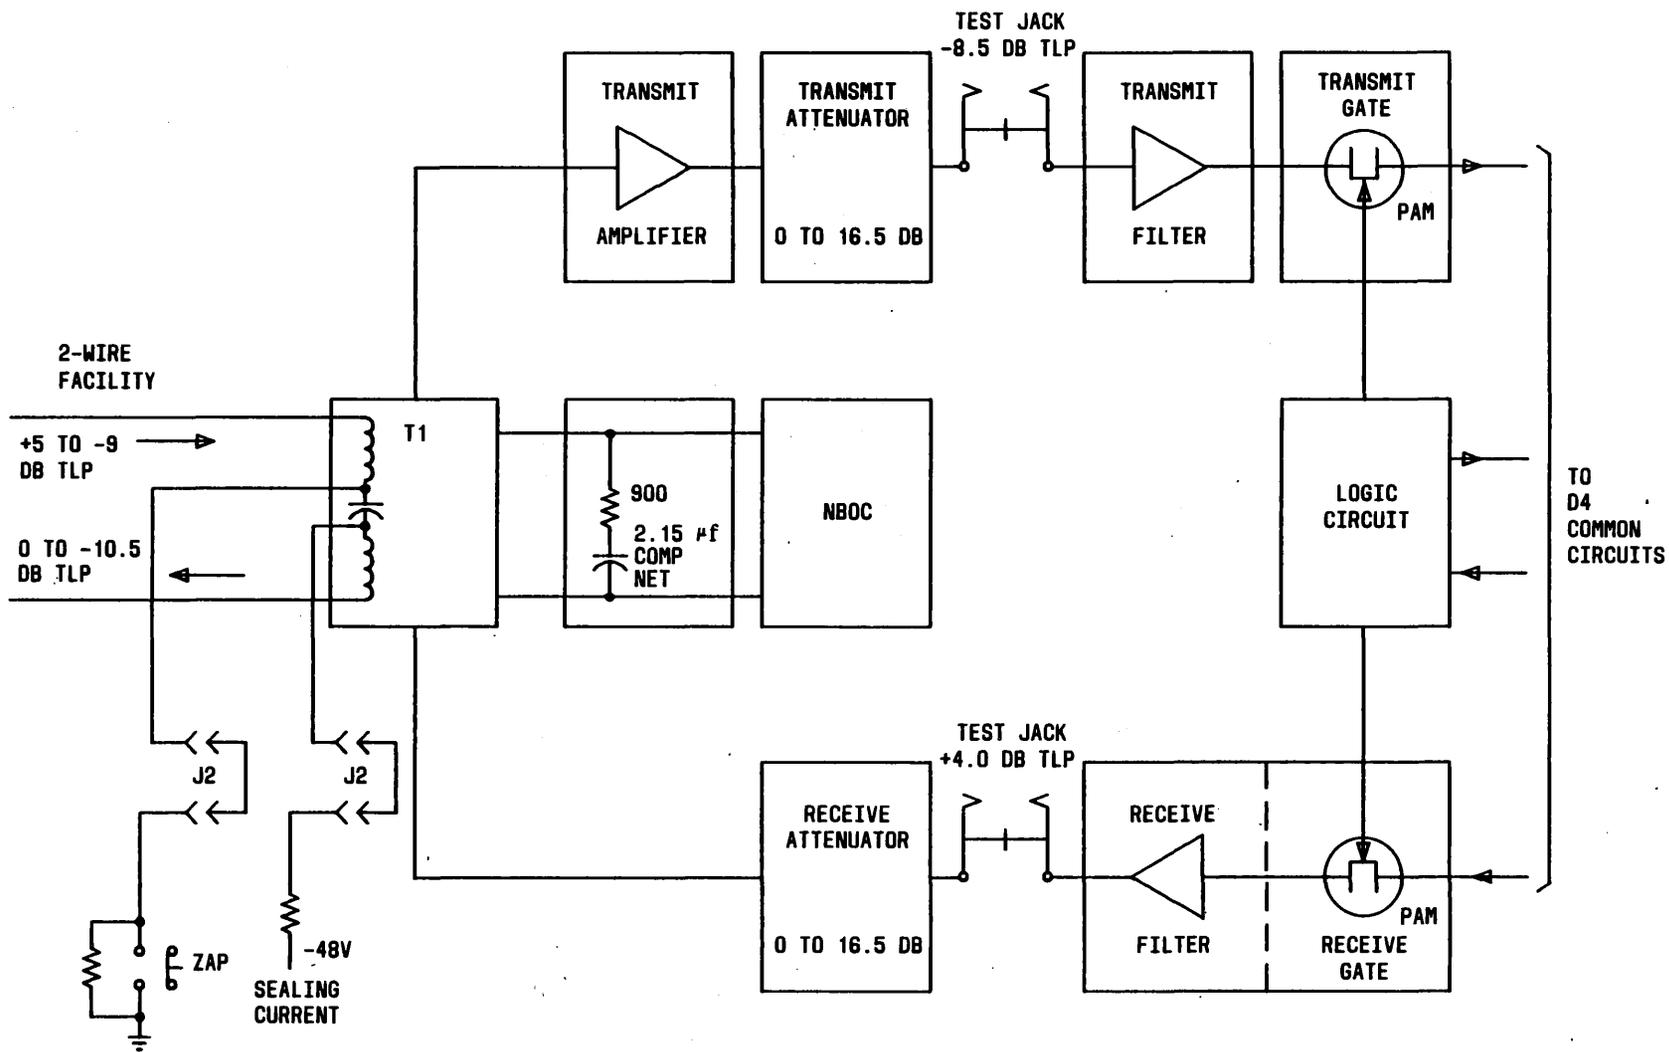

Fig. 3—2-Wire Transmission Only (2TO) Transmission Paths
2.04 The 2-wire, 900-ohm balanced line is converted to a 4-wire 600-ohm unbalanced circuit by means of a hybrid transformer T1 in the 2T0 channel unit (Fig. 3). The hybrid is balanced with a compromise network and adjustable network buildout capacitors (NBOC). Optional sealing current is supplied to the T and R leads of the 2-wire facility to insure positive connection of hand wrapped splices in the cable. The nominal sealing current is 30 mA but may be momentarily increased to 60 mA by depressing the ZAP switch.